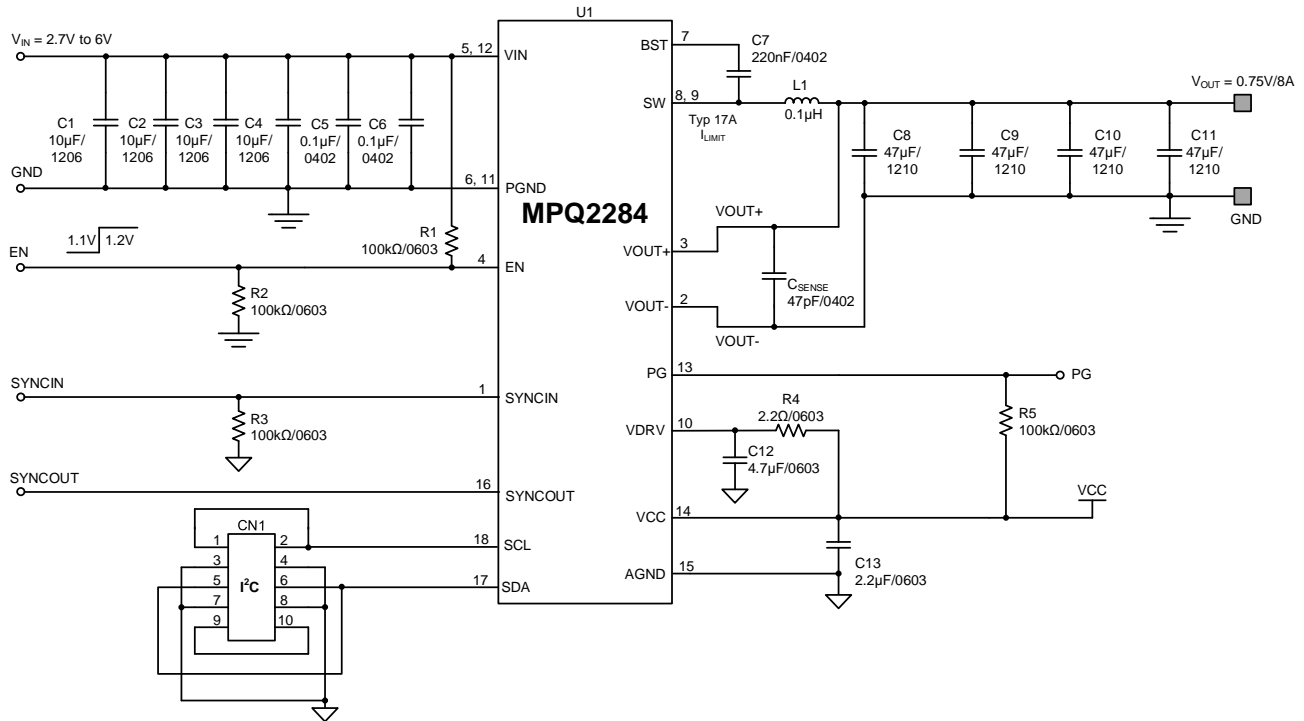

Figure 14: Typical Application Circuit ($V_{OUT} = 0.75V$, $I_{OUT} = 8A$, $f_{sw} = 3MHz$)
14) The recommended PCB layout is based on Figure 14 on page 65.